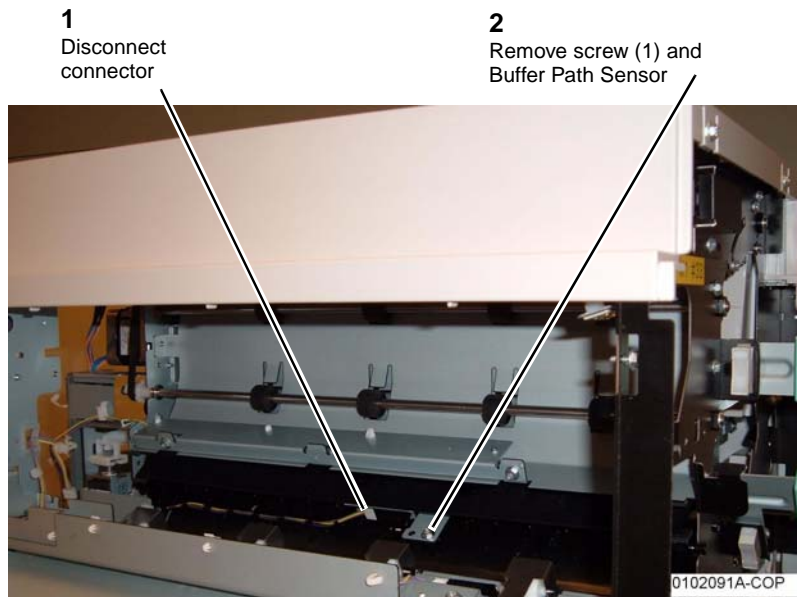

Figure 1 Removing the Buffer Path Sensor
4. Remove the Buffer Path Sensor (Figure 1).